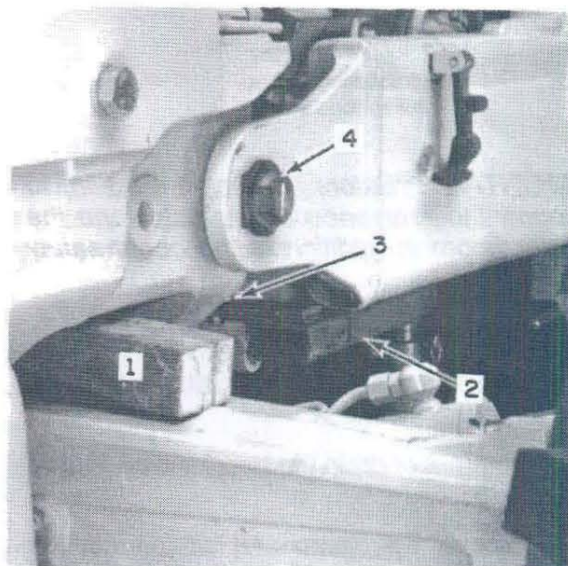

FIGURE 10-29
9. Install wedges, Figure 10-29, between the axle and the front support.